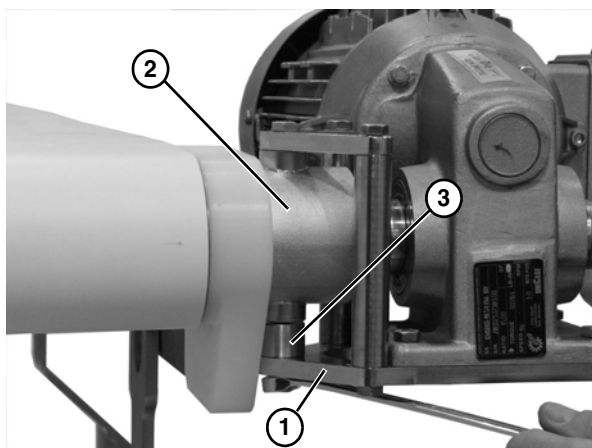

Figure 57
2. Remove the bottom gearhead mounting bar (**Figure 57, item 1**) from the motor mounting bracket (**Figure 57, item 2**). Remove spacer (**Figure 57, item 3**).